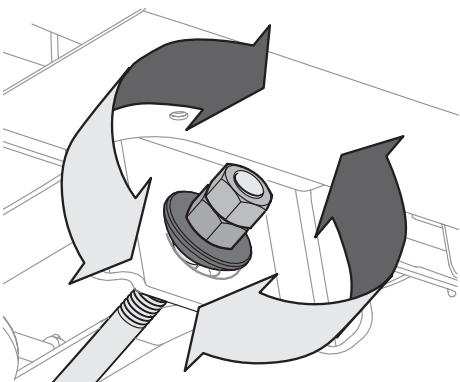

Figure 4-5
- To raise the front of the deck, loosen the outer nut then tighten (thread inward) the nut against the front hanger bracket. See Figure 4-5. When proper adjustment is achieved, re-tighten the outer nut to 25-30 ft.-lbs.
- To lower the front of the deck, loosen the outer nut then loosen (thread outward) the nut, away from the front hanger bracket. See Figure 4-5. When proper adjustment is achieved, re-tighten the outer nut.